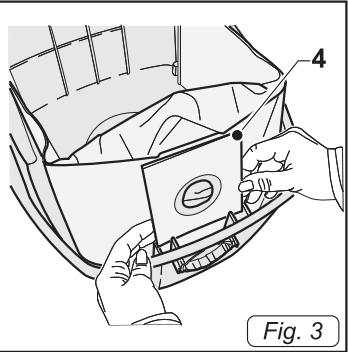

Fig. 3
- Check that the paper filter bag (4 Fig.3) is in place inside the device.
- If the paper filter bag (4 Fig.3) is not present, insert it by putting the square cardboard stiffener into the slot in the drum.
- Remove the paper filter bag (4 Fig.3) and replace as indicated above.